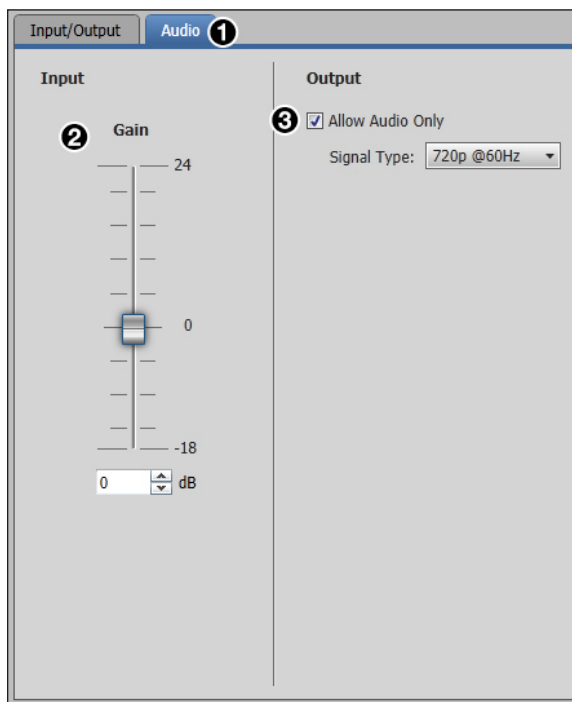

Figure 26. Audio Tab
Click the **Audio** tab (see figure 26, ①) to open the Audio screen. It contains input gain and output video mute options.